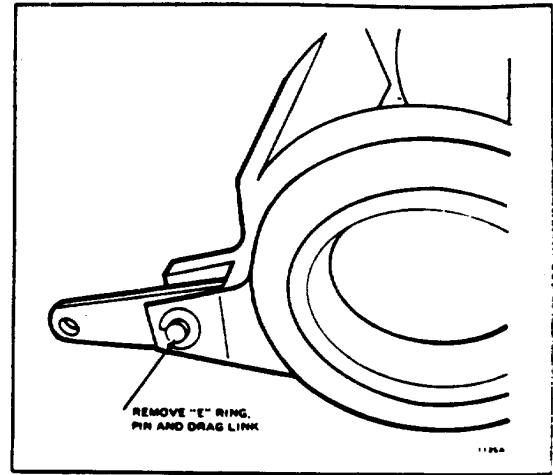

FIGURE 4. Pin connection to swashplate. Shown disassembled for clarity.
- 4. Remove the E-ring from the inside end of the connecting pin. Use caution not to drop the E-ring into the housing during the removal. See Figure 4.